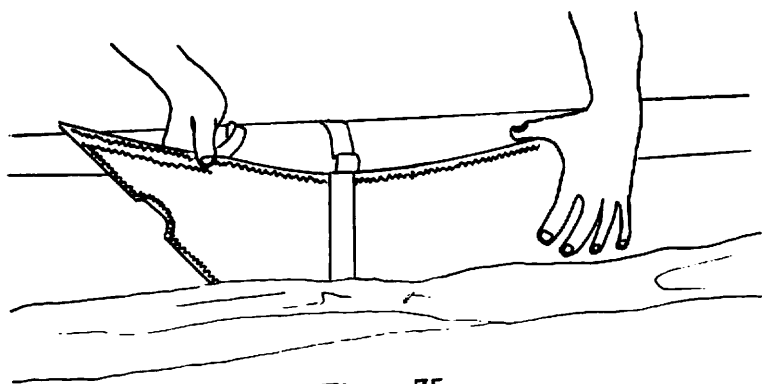

Fig 75
- 15) Slide the nose cone under the forward most velcro strap. (Fig 75) Zip up the bag.